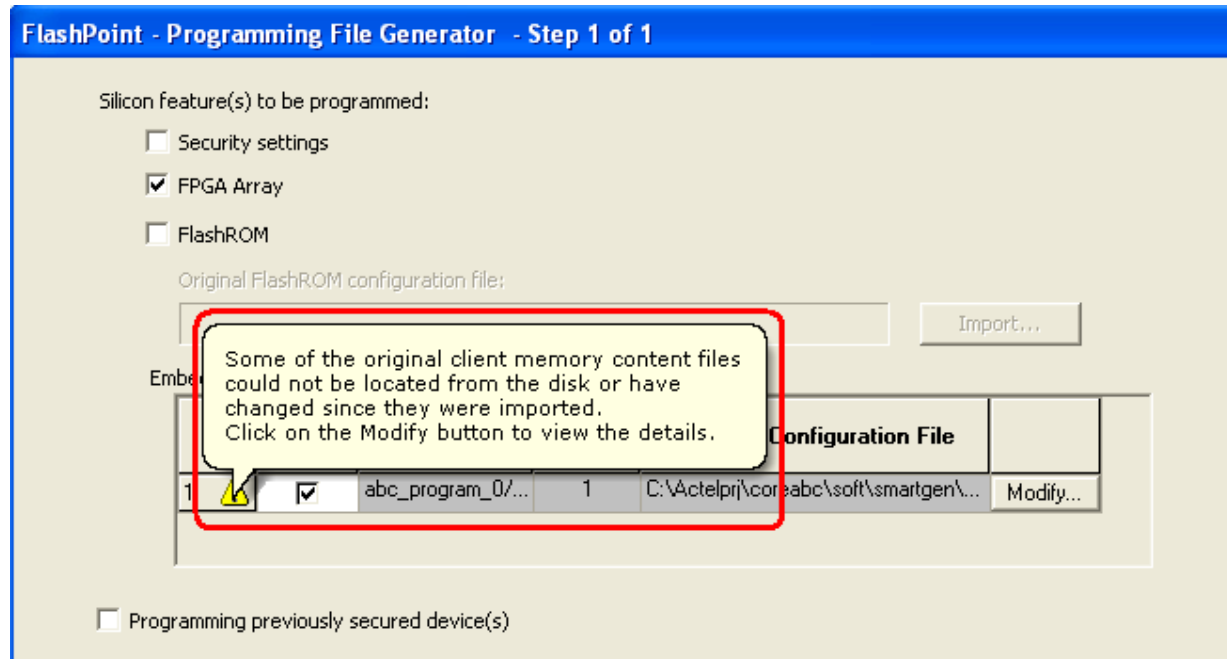

Figure 7-8 • Import Updated Input File
13. When you click on **Programming File** in Designer to run FlashPoint, to generate the programming file (a PDB file, for example), you will get the warning shown in Figure 7-8 if the SmartDesign design was recently regenerated. This is because the FMSB initialization client's input Actel binary soft mode program image file is more recent than the generated EFC file, so you need to reimport the updated input file.